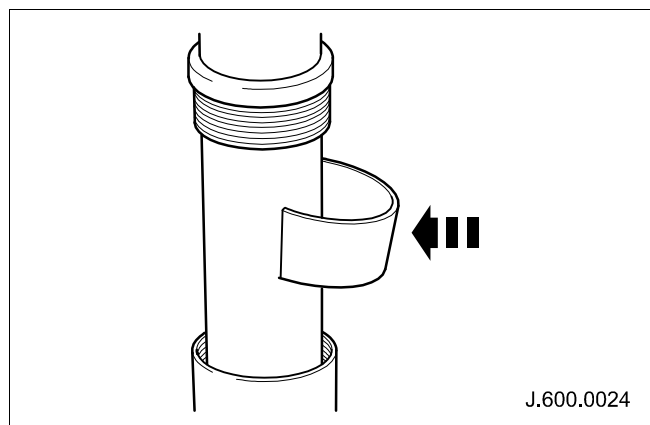

Fig. 4
- 10 Insert modified strengthening collar (supplied in kit) into the Nike Lift piston body flange. (See Fig. 4)